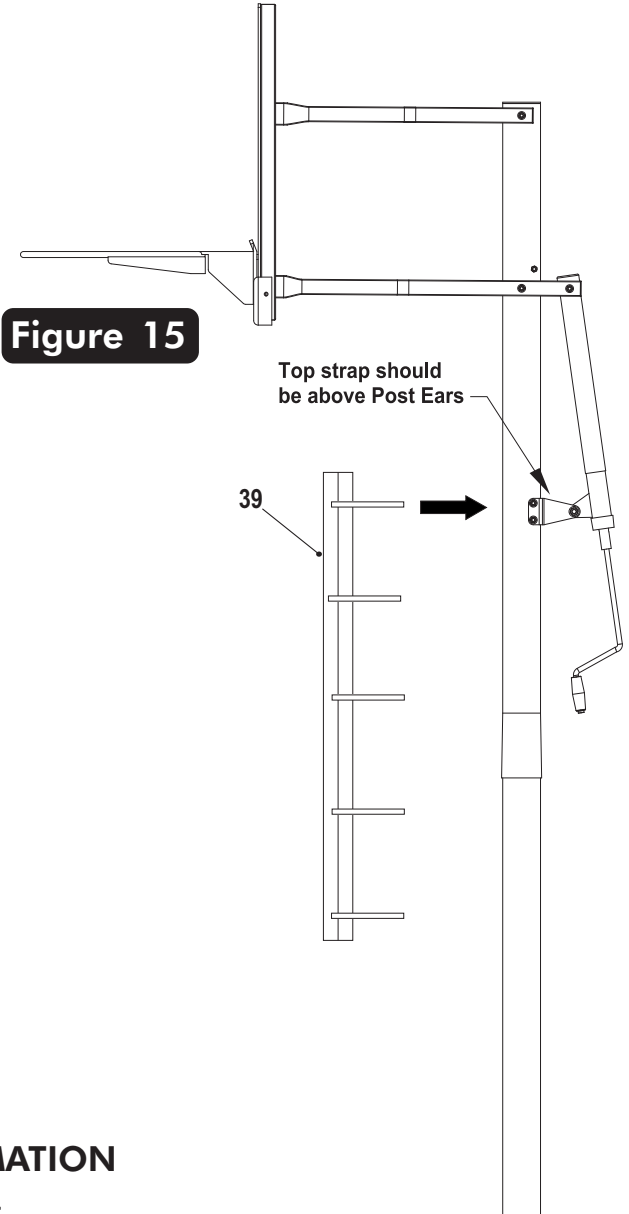

Figure 15
- 33.** Secure Post Pad (#39) to front of pole by wrapping straps around pole and sticking to velcro on opposite side of Pad. Top Post Pad strap should be above Post Ears. See **Figure 15**.